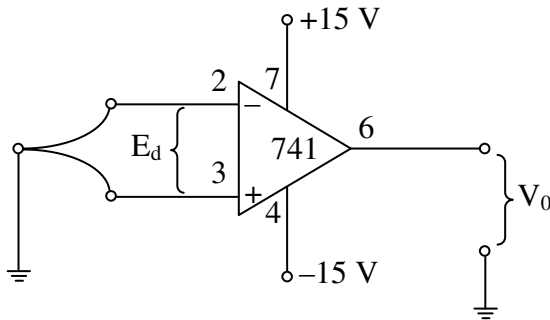

Fig. 8.7 Measuring $+V_{\text{sat}}$ or $-V_{\text{sat}}$
4. Short both input terminals together and connect them to ground as shown in Fig. 8.7. From the data sheets for a 741, $A_{OL} = 200,000$ (200 k) as a typical value and E_d in Fig. 8.7 should be 0 volts.